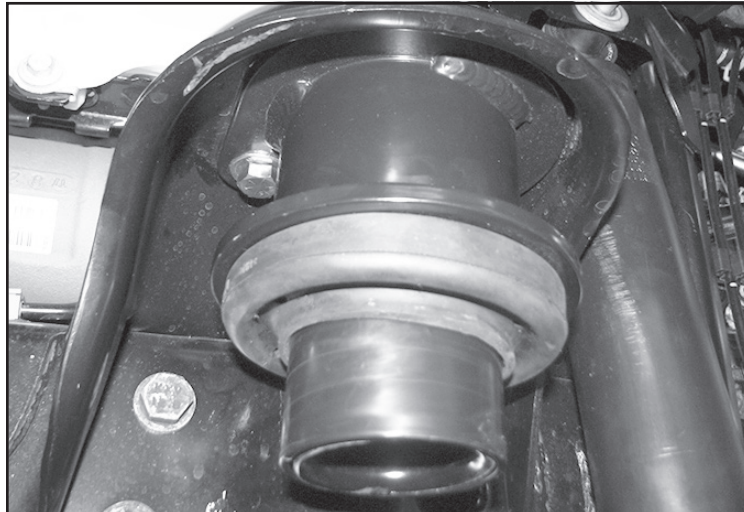

FIGURE 13 - STEP 11
11. Install FT50400BK (Front Coil Spacer) using the supplied 7/16 x 1-1/4" bolts, washers and nuts using the factory hole in the coil bucket. Torque to 83 ft-lbs. Install the rubber isolator onto the new Fabtech coil spacer. Re-install the factory foam bumpstop on both sides. Repeat on passenger side **SEE FIGURE 13**